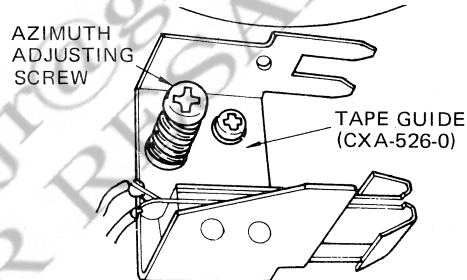

Fig. 9
2. Change program to 3 and adjust by turning azimuth adjusting screw (Fig. 9) to secure maximum output reading on the VTVM in both Lch and Rch.